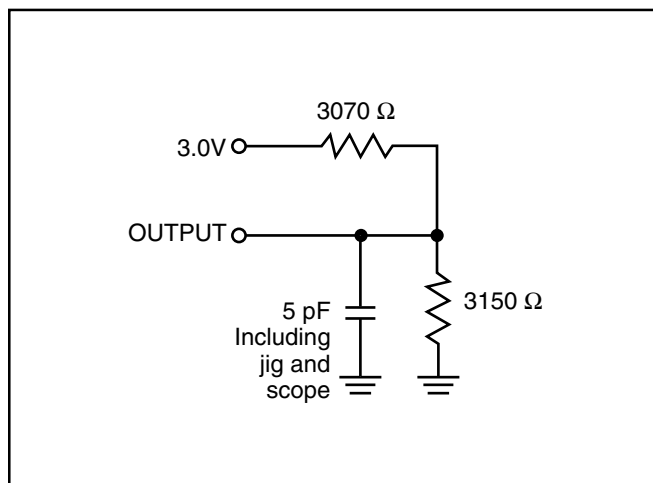

Figure 2
- Tested with the load in Figure 2. Transition is measured ±500 mV from steady-state voltage. Not 100% tested.
3. Tested with the load in Figure 2. Transition is measured  $\pm 500$  mV from steady-state voltage. Not 100% tested.